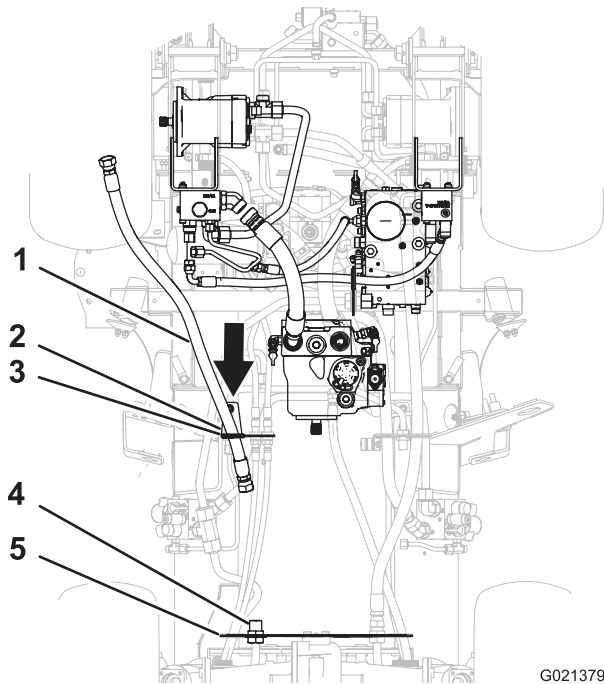

Figure 15
1. Align the fitting of the rear-traction hose through the cushioned guide of the support bracket, and slide the hose through the bracket (Figure 15).